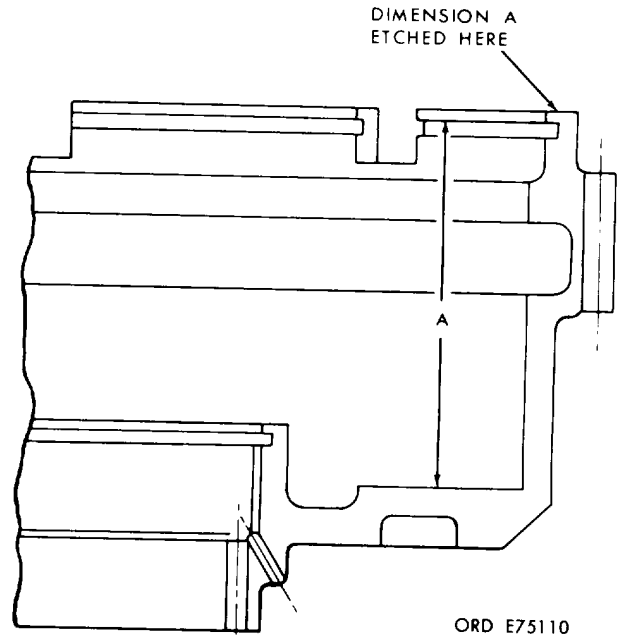

Figure 7-39. Dimension from clutch reaction surface of housing to snapping groove
- a. dimension A (fig. 7-39) which is etched on the rim of the output clutch housing during manufacture. Record this dimension. Some early production units may not have this dimension etched on the housing. If not, measure the dimension accurately at the location indicated by A in figure 7-39.